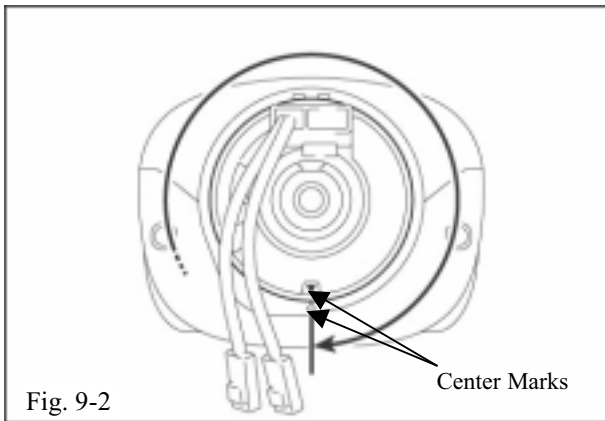

Fig. 9-2
- (c) From there, turn back the spiral cable 2.5-turns clockwise and get the center marks aligned as shown in the diagram. (Fig. 9-2)